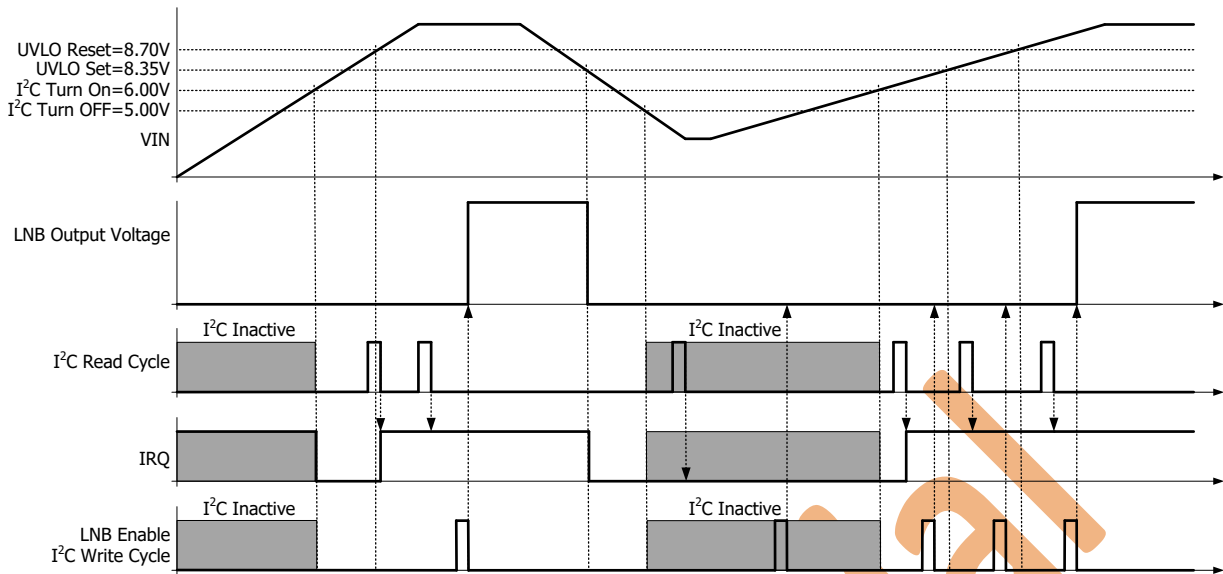

Figure 7. IRQ and Fault Sequence for I2C address set to address1
- The second method uses I2C address setting (Address 1). In this method the I2C port is active when  $V_{IN}$  is above the I2C UVLO (6V when  $V_{IN}$  is rising). IRQ transitions low when  $V_{IN}$  goes above I2C UVLO (6V,  $V_{IN}$  rising), and the I2C Read cycle resets IRQ to logic high even if  $V_{IN}$  is below UVLO. Even though IRQ is cleared below UVLO, one more Read cycle is required after  $V_{IN}$  goes above UVLO, to re-enabled the WT20-1809. While  $V_{IN}$  is falling, IRQ transitions low when  $V_{IN}$  goes below UVLO, and the I2C Read cycle resets IRQ to logic high. A detailed timing diagram is shown in Figure 7.